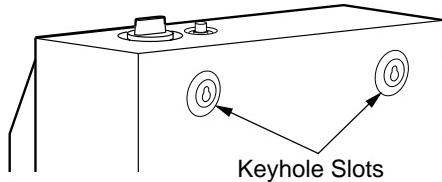

Figure 10 - Location Of Keyhole Slots On Back Panel Of Heater
1. Locate two keyhole slots on back panel of heater (see Figure 10).